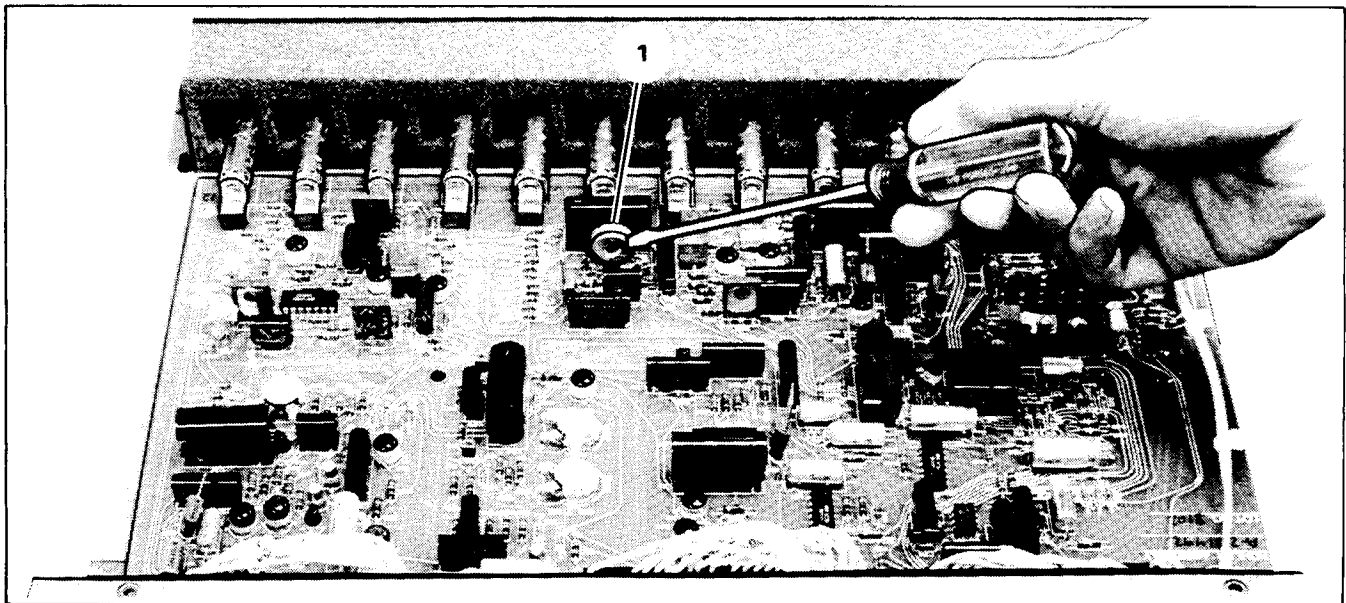

Figure 3-18. NFPA Controller
- c. Break adjustment seal and slowly adjust the overspeed pot. on the NFPA controller board just to the point where the generator set shuts down. See Figure 3-18.
Leaving Pot. 5 in its fully clockwise position, slowly adjust the overspeed Pot. on controller board clockwise until set shuts down (Figure 3-18). The overspeed shutdown function is now set.